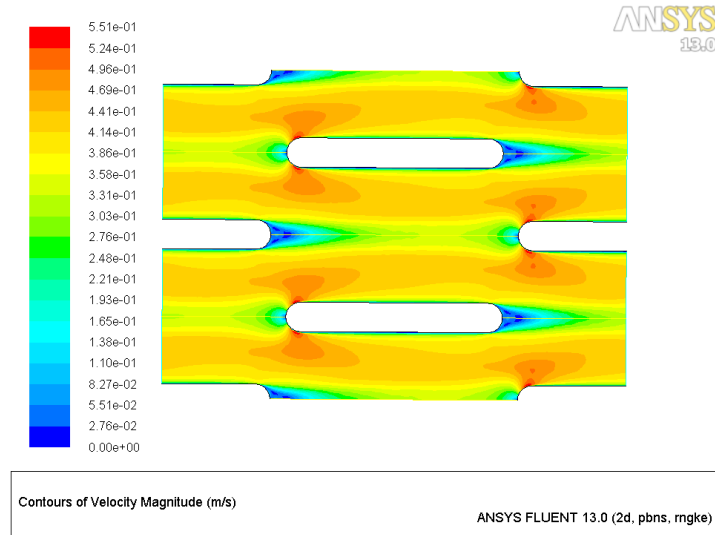

Figure 8: Contours of Velocity Magnitude
3. Display filled contours of velocity magnitude (Figure 8).